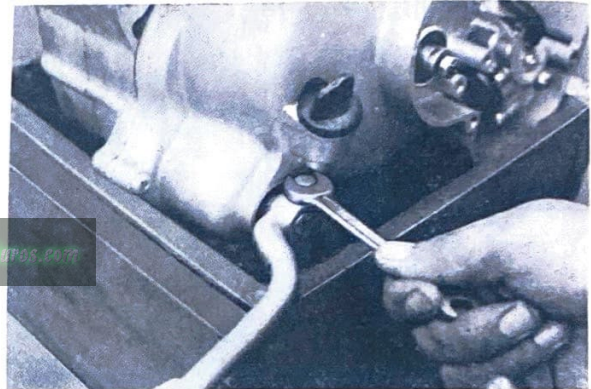

Fig. 3-8-1
- a. Remove the kick starter crank clamping bolt, and remove the kick starter crank. (Fig. 3-8-1)